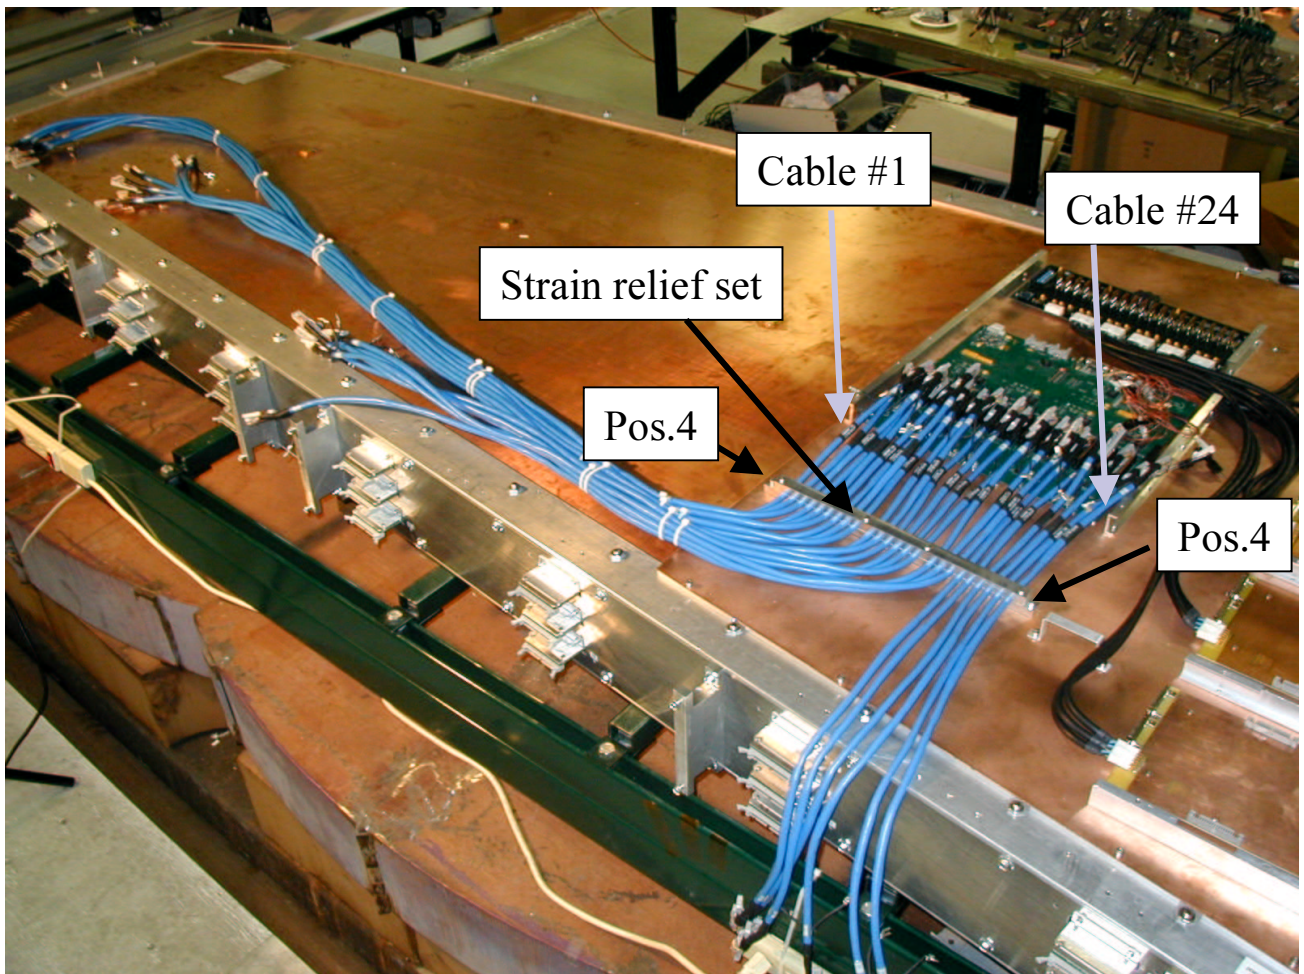

Fig.6. ME234/2 cable harness on the chamber
- Take a harness from a shipping box and put the harness on the top of the chamber. Spread the harness on the chamber as shown on picture Fig.6